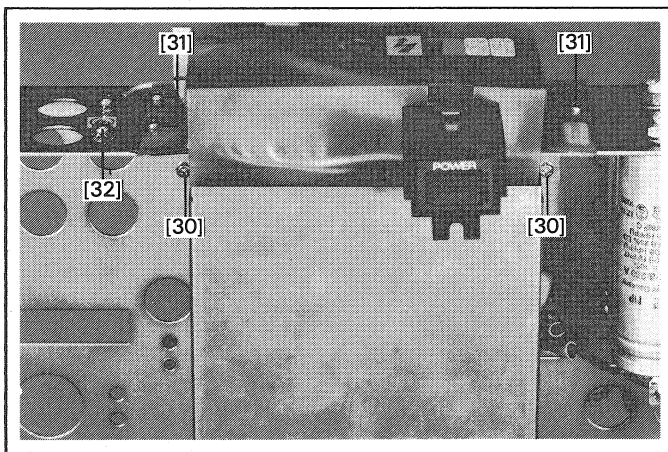

Fig. 16
- Unfasten 3 PCB fixing screws [31] (Fig. 16).